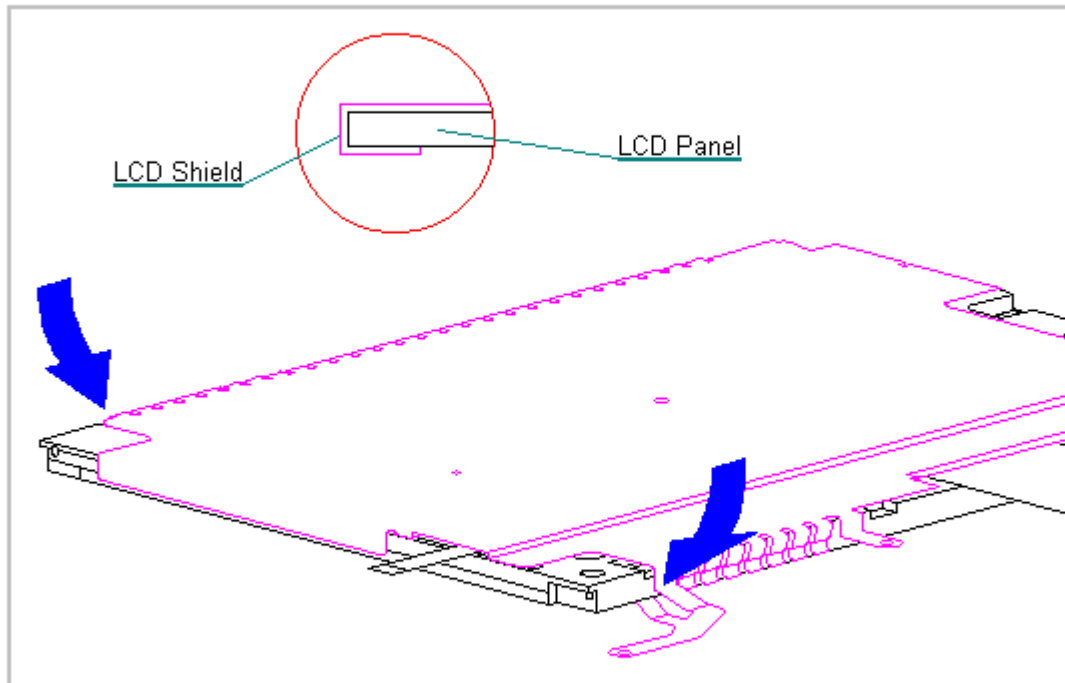

Figure 3-97. Positioning the Display Shield Tabs (Models 400 and 410)
5. Place the shield tabs in the indentations on the right side of the Monochrome LCD panel (Figure 3-97).